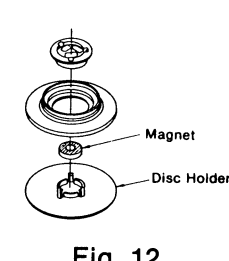

Fig. 12
4. Remove the 4 screws from the player unit. (See Fig. 12)
6. Remove the disc holder from the disassembly in (See Fig. 12)
- Remove the disc holder and magnet (see Ref No. 18, 19 of the disassembly instructions). (See Fig. 12)